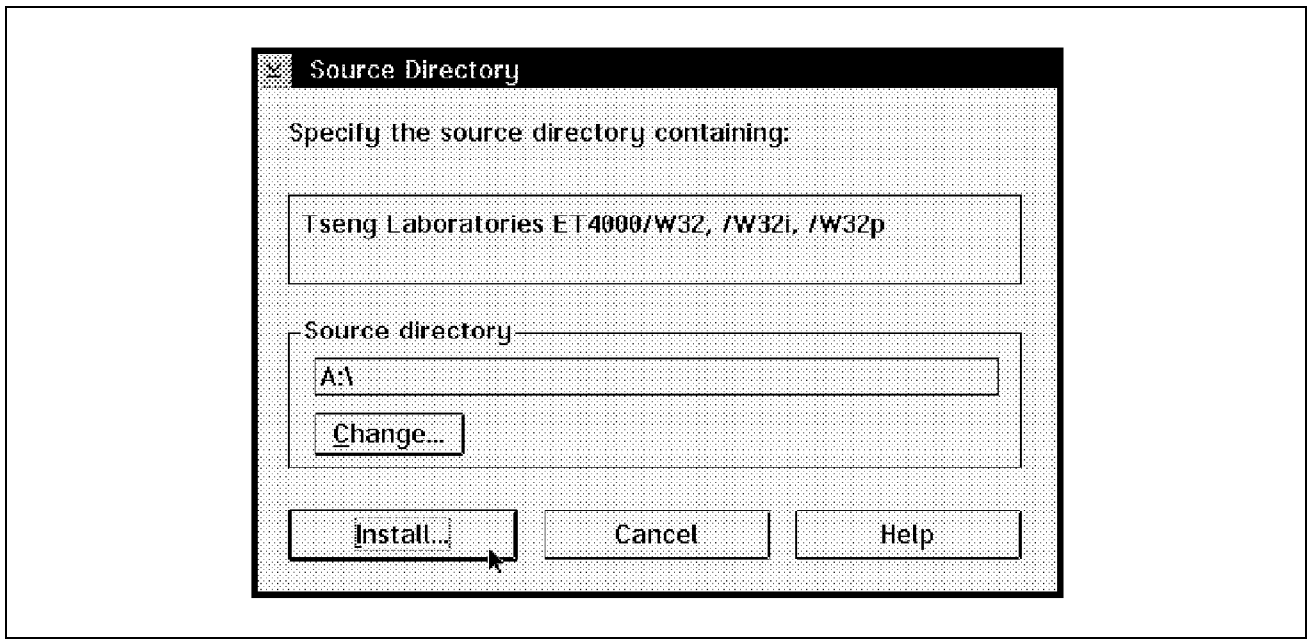

Figure 10. Display Driver Install: Specify Source Directory
6. Specify the source directory as shown in Figure 10 on page 36.